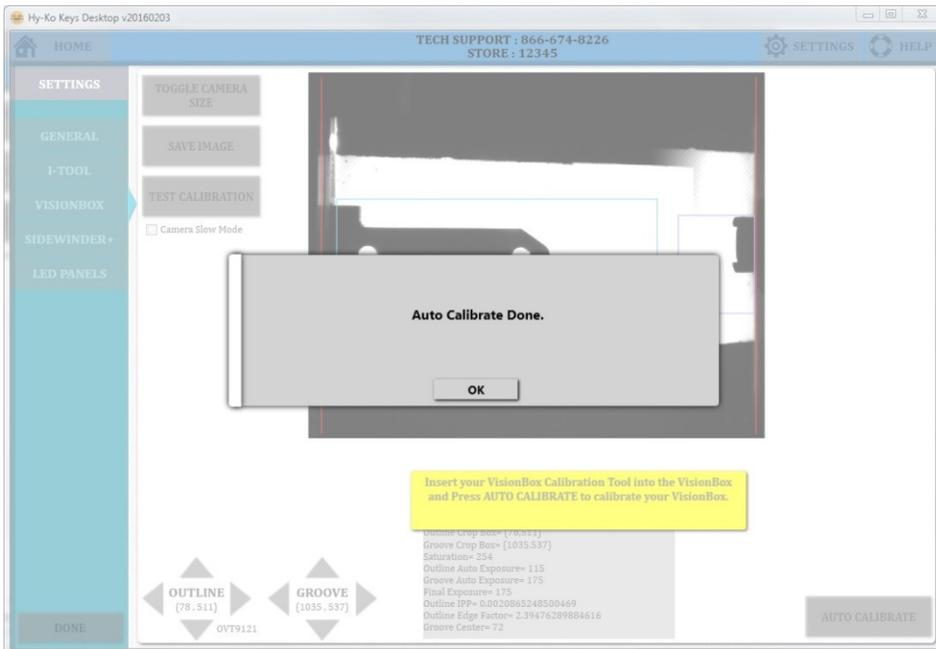

fig. 19
- Once the scanning has been completed click 'OK' (see fig. 19).